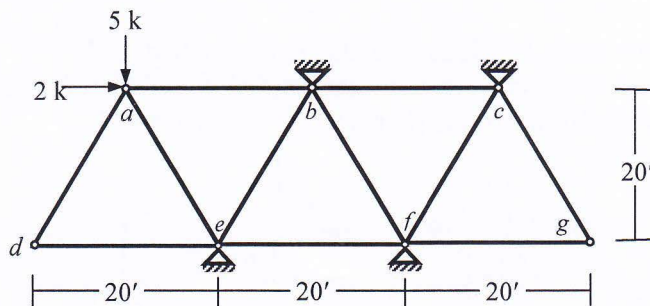

Fig. 9
10. For the plane truss shown in Fig. 9, modulus of elasticity $E = 30000$ ksi, cross-sectional area $A = 2$ in², mass per length $\mu = 1.5 \times 10^{-6}$ k-sec²/in².